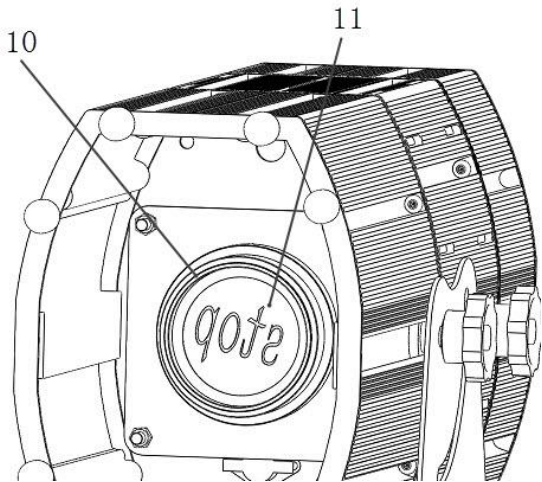

Figure-2 10- Logo Clamping Wire, 11- Glass Gobo
shown in figure-2), then unscrew the Logo Clamping Ring- (10) and remove the Glass Gobo- (11), replace with a gobo of your choice, then screw on the Clamping Ring.